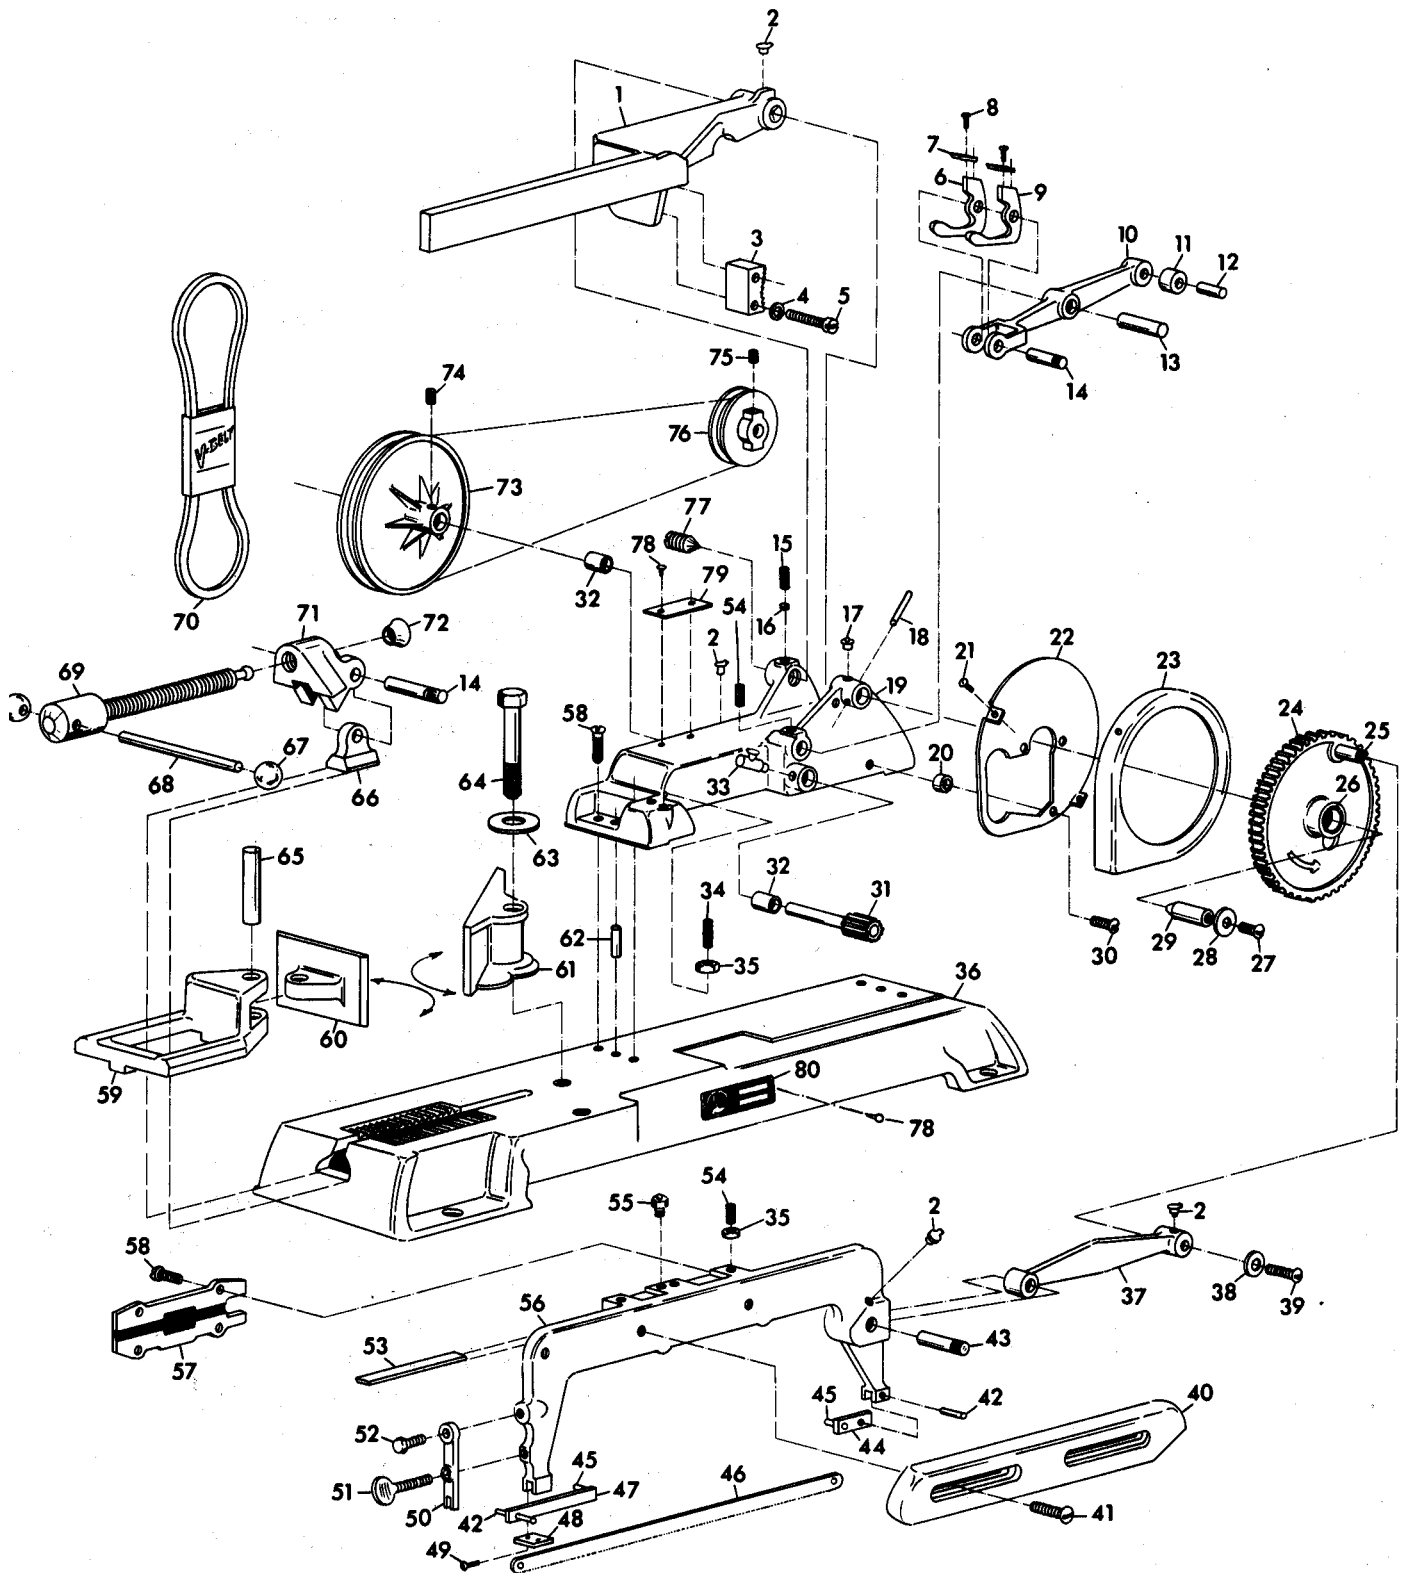

FIGURE 2
6. Check saw blade pressure. Saw pressure is varied by moving the weight (40, figure 2) on the main frame. Proper saw pressure depends upon the type of material to be cut. Soft materials require less pressure than hard material. Cross-sections having little material require less pressure than solid cross-sections. Never over feed, as this causes blade breakage and poor quality cuts.
LIFTING ARM. The lifting arm (1, figure 2) swings on tapered bearing surfaces and is adjusted by turning adjusting screw (77) with a screwdriver. The screw is locked in place with a set screw (15).